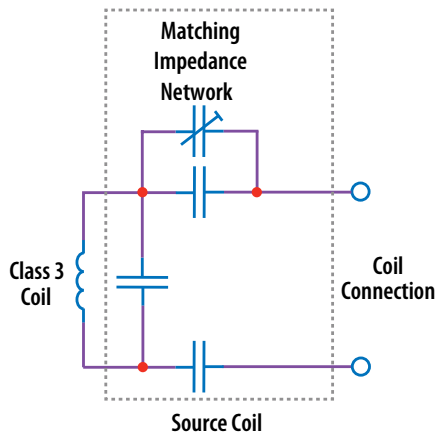

Figure 3: Diagram of the A4WP Class 3 Source Coil
3. Connect a LOW capacitance oscilloscope probe to the probe-hole J2 between the two eGaN FETs Q10_x and Q11_A and lean against the ground post as shown in figure 3.
Figure 3 shows the schematic for the source coil which is class 3 A4WP compliant. The matching network includes both series and shunt tuning. The matching network series tuning is differential to allow balanced connection and voltage reduction for the capacitors.